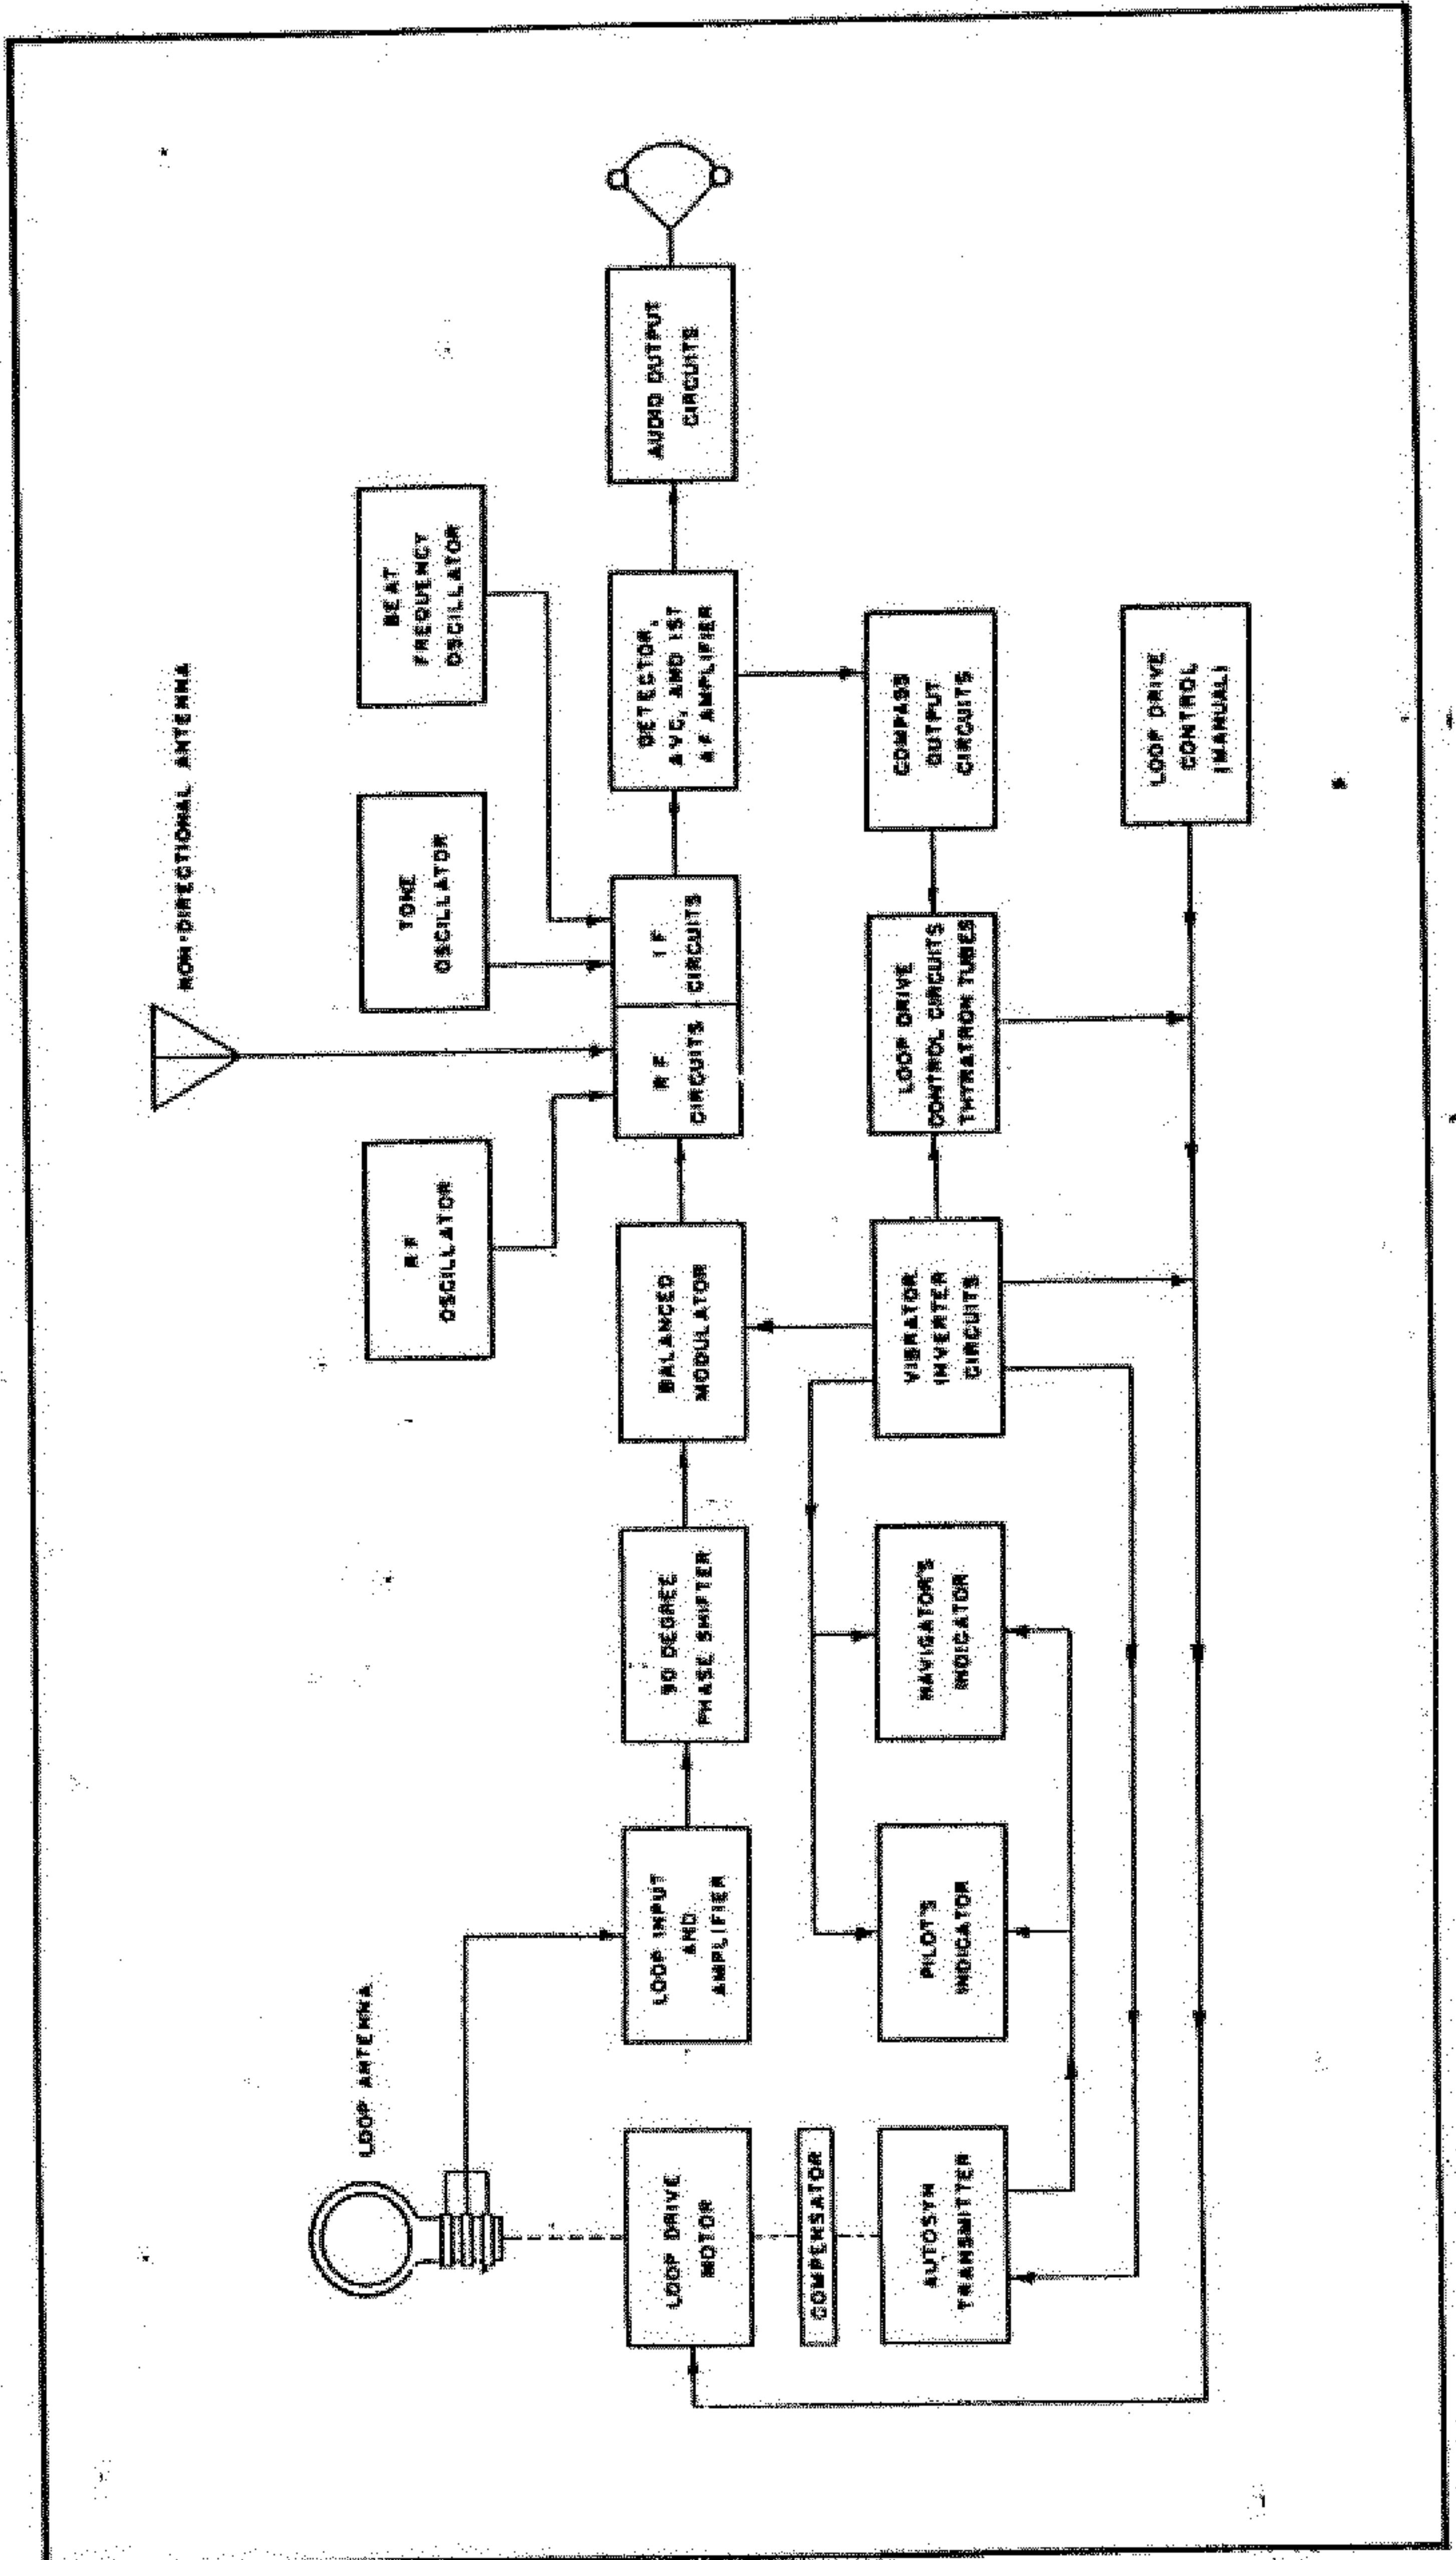

Figure 4-2. Functional Block Diagram
*b.* **OVERALL FUNCTIONING OF EQUIPMENT.**—The general functioning of the equipment is outlined in the block diagram, figure 4-2. The directional loop receives a signal which passes through a stage of preamplification. The phase of the signal is retarded 90 degrees, for reasons described in detail later, and then is fed to both grids of a dual-triode tube used as a balanced modulator, with 100-cycle push-pull modulation. The modulated signal is combined with the signal from the sense, or nondirectional, antenna, and the result goes through a more or less conventional superheterodyne receiver. The detected signal is fed to two independent output circuits, one for listening, and the other for automatic control of the loop drive motor. The position of the loop is remotely shown on the indicators. The manner in which these results are obtained is described fully in paragraphs 2 and 3, following.